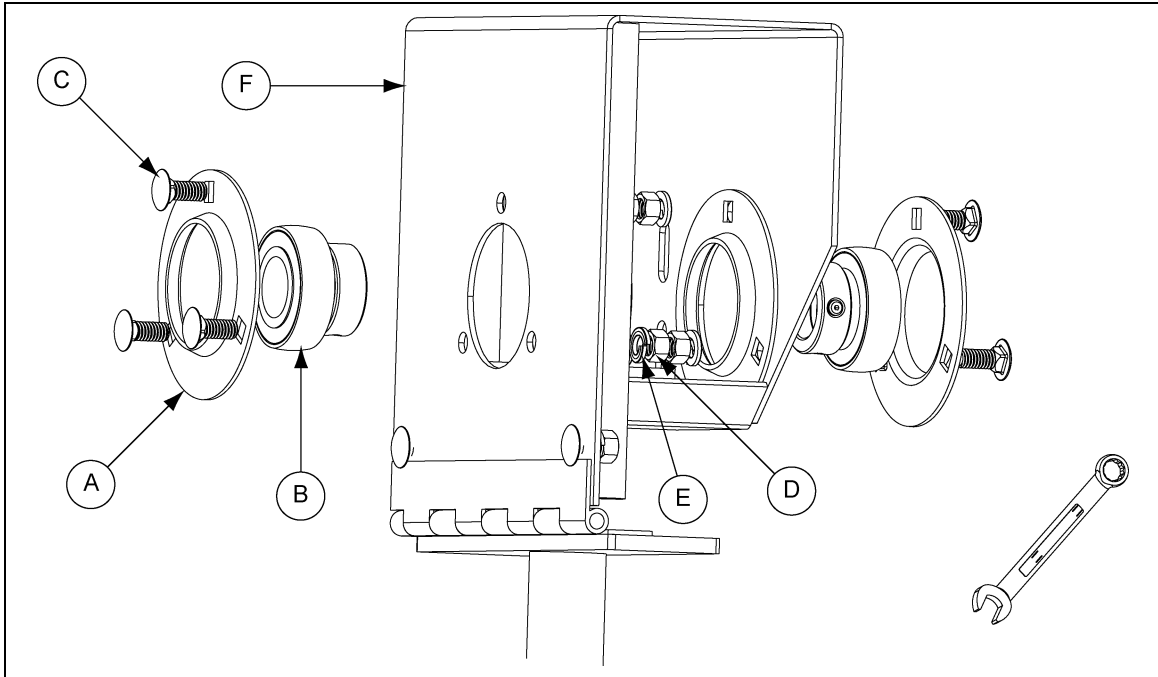

Figure 4Y
Step 1: Fit flange bearings. (See Figure 4Y.)